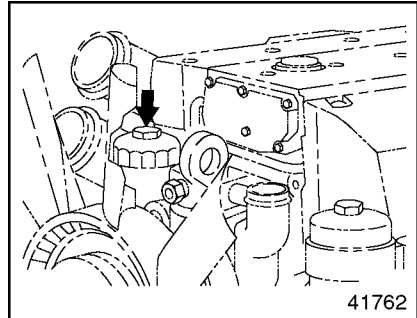

Figure 44 Oil Filter Cap
2. Using a 36-mm socket, unscrew the oil filter cap. See Figure 44.